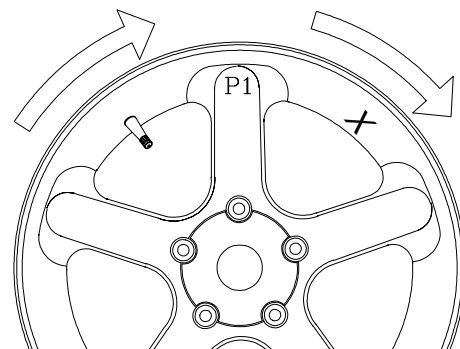

Figure 34
6. The display will read “**SPO 1**”. Locate the first spoke nearest to top dead center and rotate the wheel so that spoke is at top dead center. See Figure 34. Press **P** to store first position.